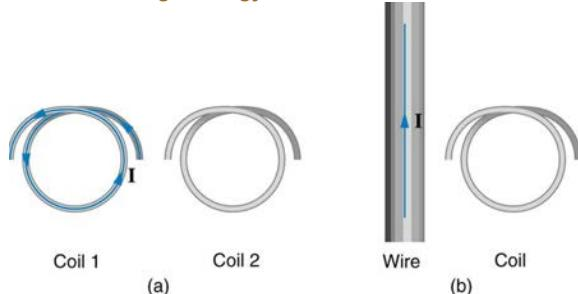

Figure 23.57 (a) The coils lie in the same plane. (b) The wire is in the plane of the coil
3. Referring to **Figure 23.57(a)**, what is the direction of the current induced in coil 2: (a) If the current in coil 1 increases? (b) If the current in coil 1 decreases? (c) If the current in coil 1 is constant? Explicitly show how you follow the steps in the **Problem-Solving Strategy for Lenz's Law**.
4. Referring to **Figure 23.57(b)**, what is the direction of the current induced in the coil: (a) If the current in the wire increases? (b) If the current in the wire decreases? (c) If the current in the wire suddenly changes direction? Explicitly show how you follow the steps in the **Problem-Solving Strategy for Lenz's Law**.
- Approximately how does the emf induced in the loop in **Figure 23.57(b)** depend on the distance of the center of the loop from the wire?
- (a) A lightning bolt produces a rapidly varying magnetic field. If the bolt strikes the earth vertically and acts like a current in a long straight wire, it will induce a voltage in a loop aligned like that in **Figure 23.57(b)**. What voltage is induced in a 1.00 m